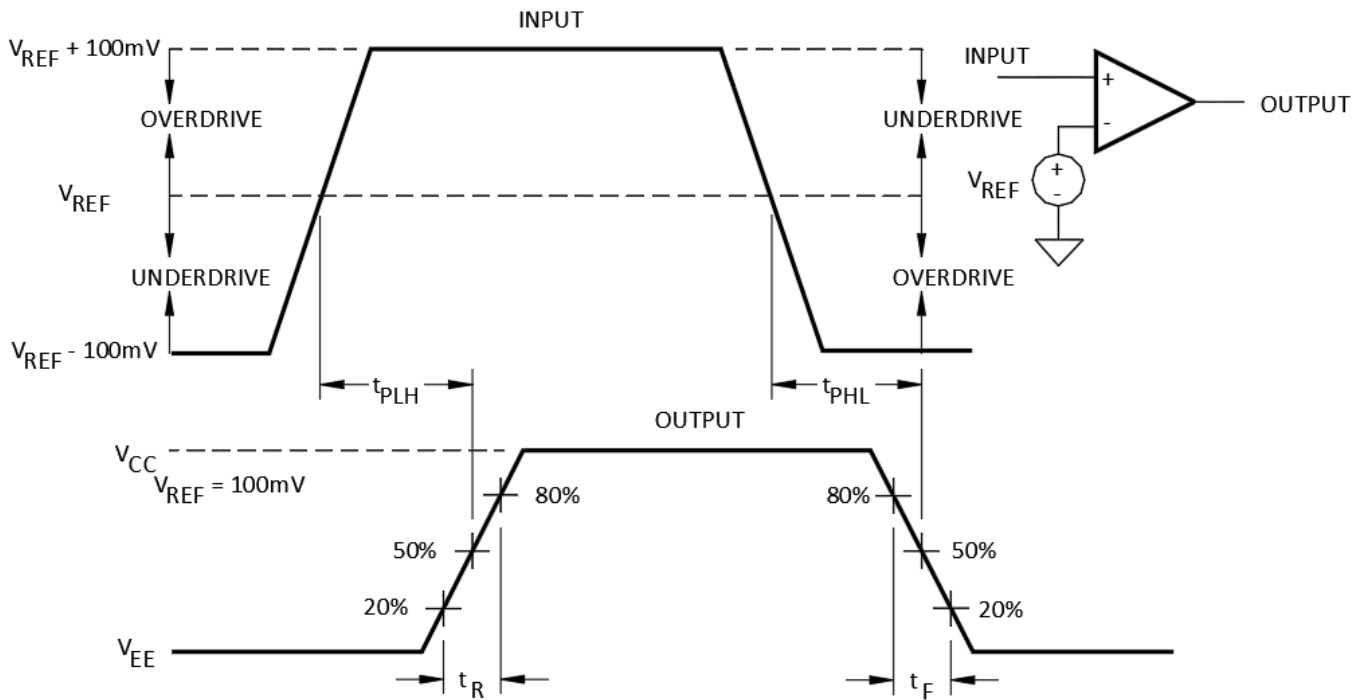

FIGURE 4. Timing waveforms and test circuit.
3.5.4 Timing waveforms and test circuit. The timing waveforms and test circuit shall be as shown in figure 4.